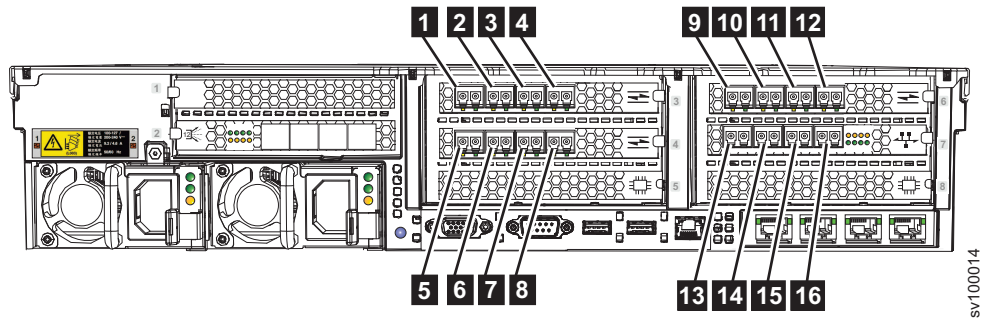

Figure 29. Fibre Channel ports
3. Optional: If the Fibre Channel feature is installed, you can connect Fibre Channel cables to the Fibre Channel ports as required by your configuration. Figure 29 shows an example of the device with 16 Gbps Fibre Channel adapters that are installed in slots 3, 4, and 6. A 10 Gbps Optical Ethernet adapter is used for Fibre Channel over Ethernet (FCoE) communications and is installed in slot 7, providing additional Fibre Channel ports.